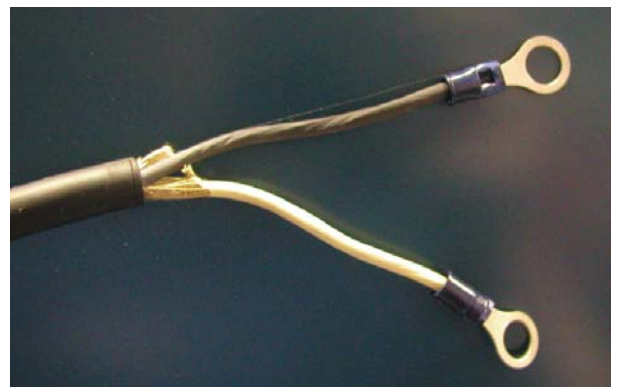

FIGURE 19
18. Remove 2" of the outer insulation from the end of the cable. Strip 1/4" from the ends of the black and white wires. Crimp the supplied ring terminals to the ends of the cable. See Figure 19.